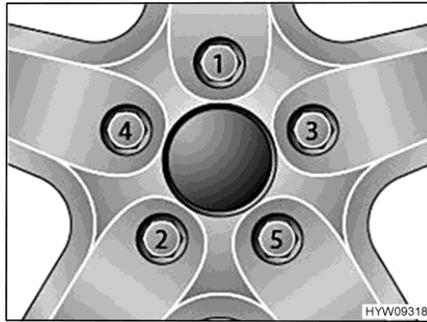

Fig. 142 Tightening the wheel nuts or wheel bolts cross-wise
- Tighten the wheel nuts or wheel bolts in the order shown in Fig. 142. In order to do this, use a torque wrench and comply with the specified tightening torque (see section 14.5).
- Check regularly that the wheel nuts or wheel bolts are firmly seated. Re-tighten the wheel nuts or wheel bolts of a changed wheel after 50 km (30 miles). While doing so, proceed in the order shown in Fig. 142.
- When using new or newly painted rims, re-tighten the wheel nuts or wheel bolts once again after approx. 1,000 to 5,000 km (600 miles to 3,000 miles). While doing so, proceed in the order shown in Fig. 142.